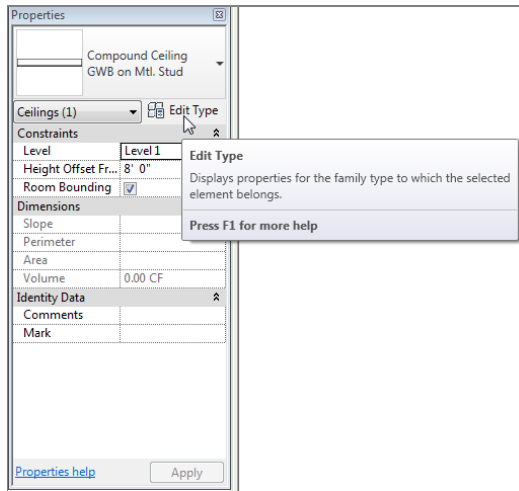

FIGURE 9.17: Clicking the Edit Type button after choosing the GWB On Mtl. Stud ceiling type
3. In the Type Selector, select **GWB On Mtl. Stud.** To the right and below the picture of the ceiling is the **Edit Type** button. Click it (see Figure 9.17).